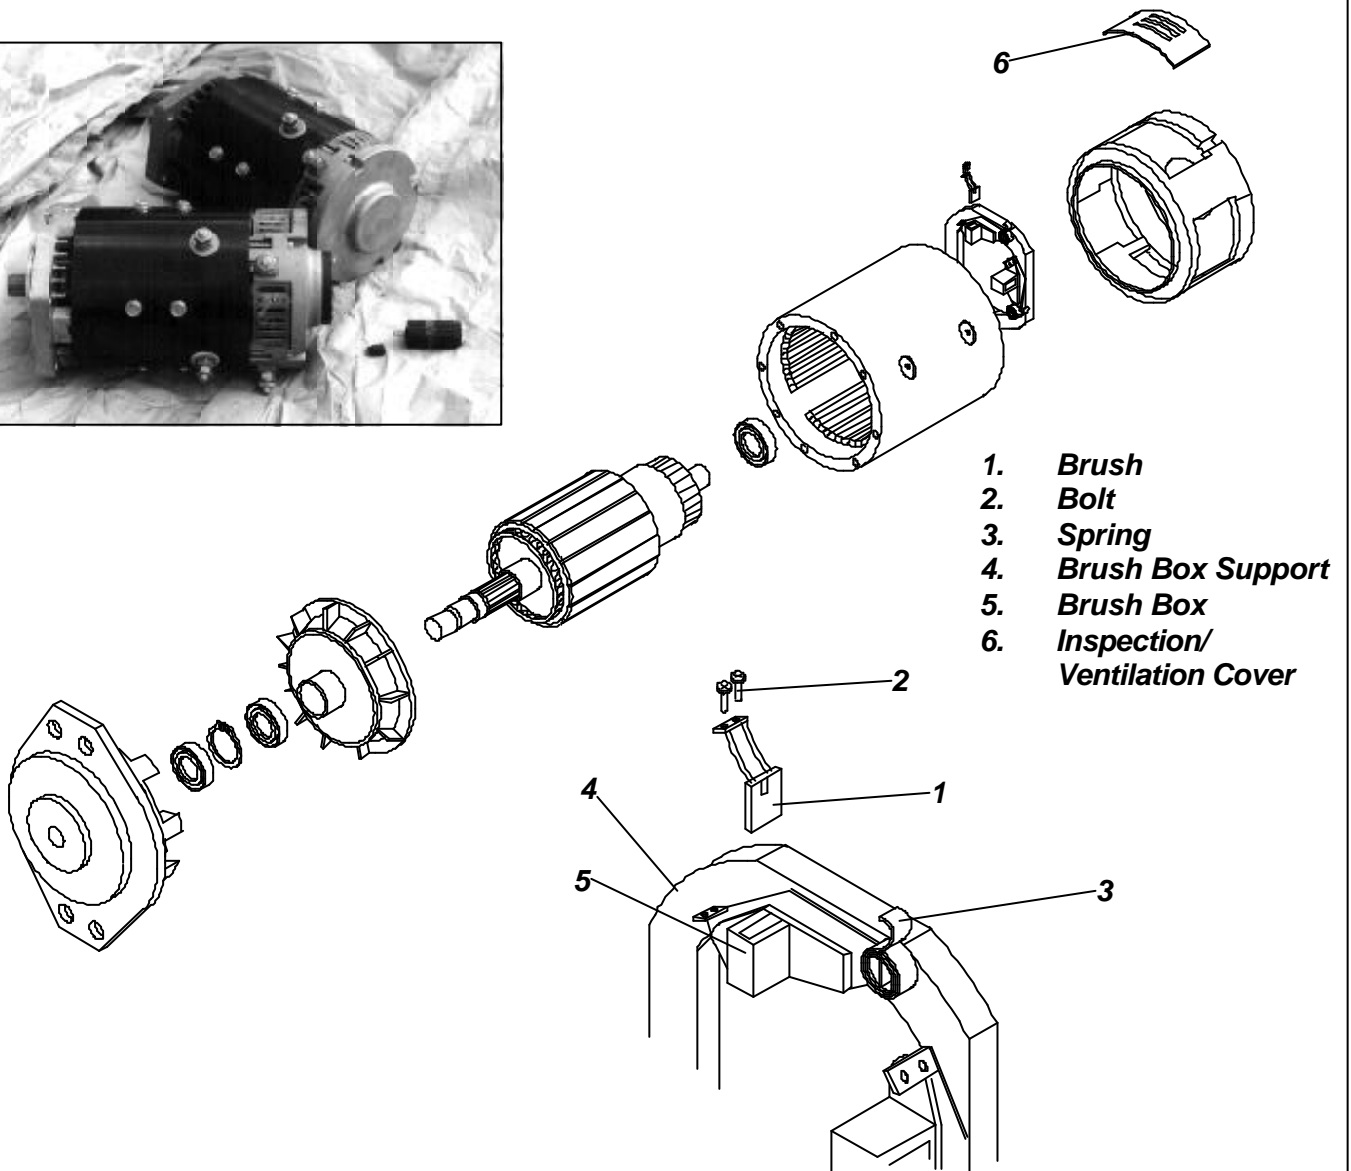

Figure 4-11: Traction Motor Maintenance
4.10 Traction Motor Maintenance (Figure 4-11)